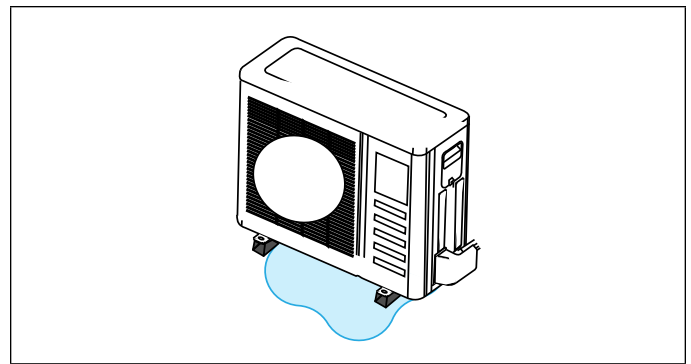

Figure 18. Avoid Defrost Water Ice Hazard
- Carefully consider how to manage defrost water disposal to prevent ice from blocking walkways or creating a safety hazard near the outdoor unit as illustrated in “Figure 18. Avoid Defrost Water Ice Hazard” on page 11